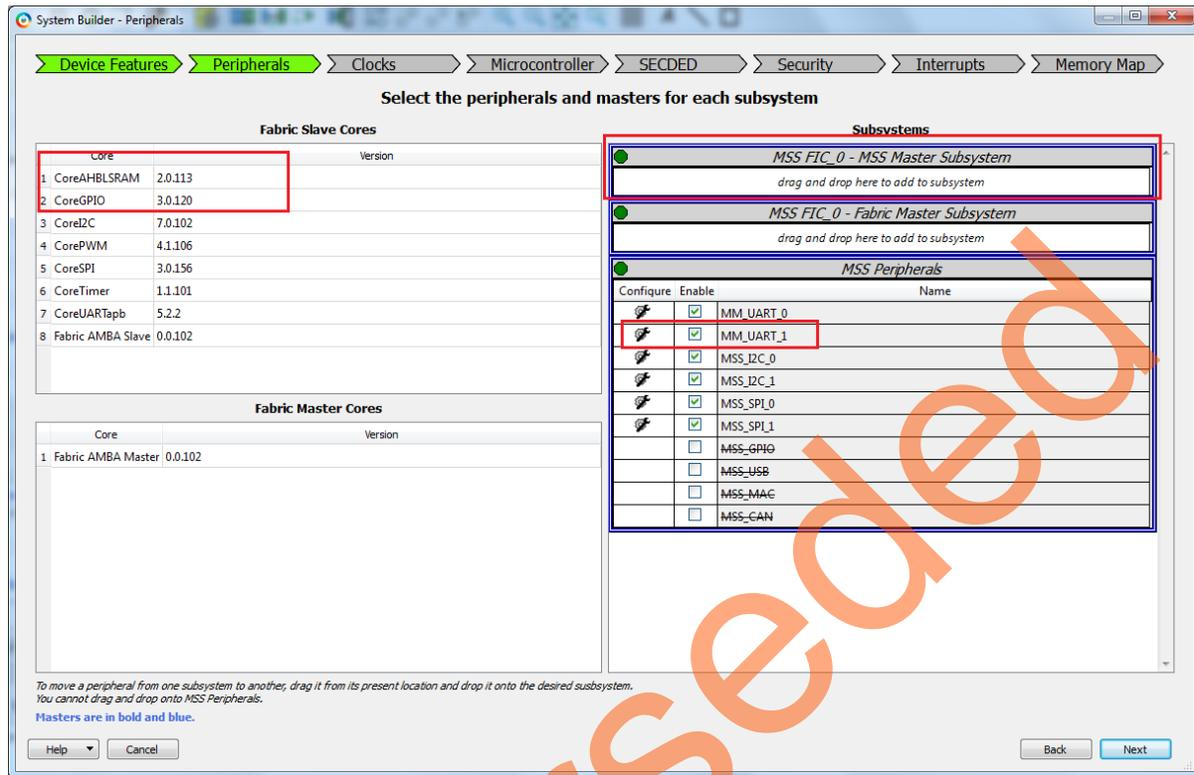
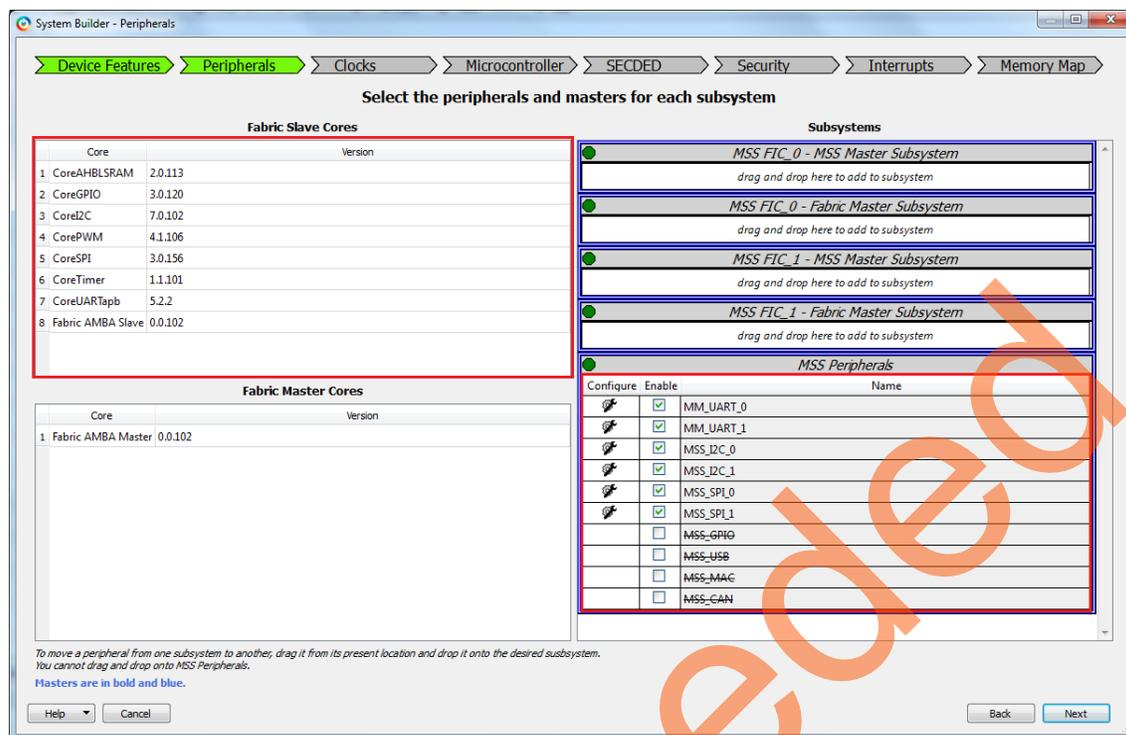

Figure 5 • SmartFusion2 System Builder Peripherals (M2S025T Device)
Figure 6 • SmartFusion2 System Builder Peripherals (M2S050T Device)
6. Select **Next**. **System Builder- Peripherals** page is displayed, as shown in Figure 5 and Figure 6.